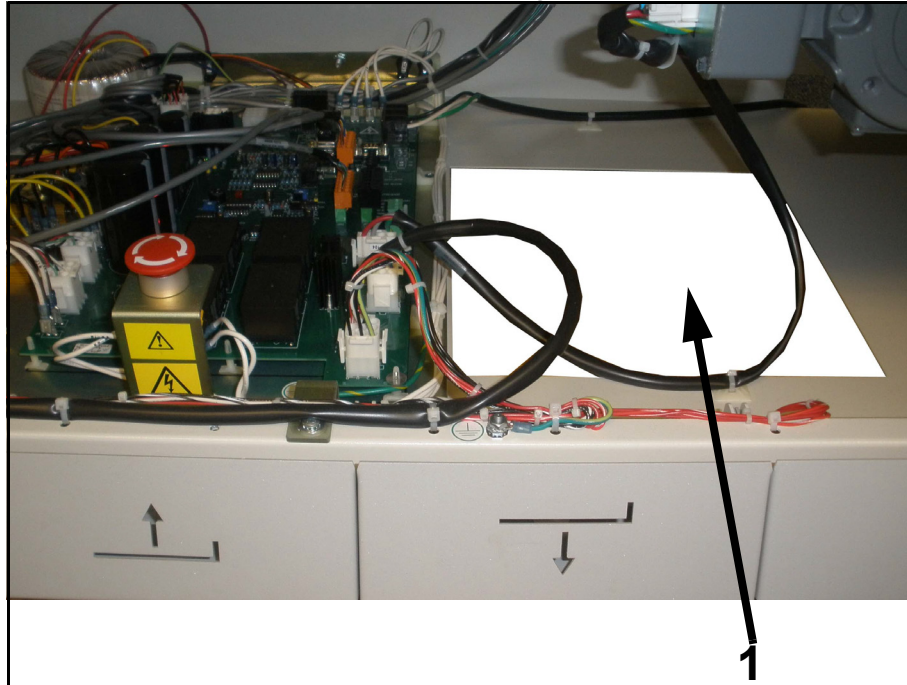
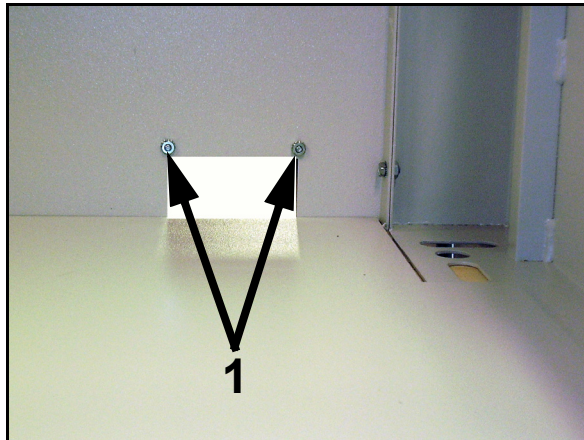

Figure 2-26. Bottom Cable Port
Figure 2-28. Port Cover Nuts
- 44 Feed the cables from peripheral equipment (wall bucky, collimator, etc.) through the port (1 in Figure 2-26) in bottom of table. As an alternative, the cables can be fed out through the opening in the lower back of the table, shown in Figure 2-28.
- 48** Unscrew the port nuts (1 in Figure 2-28).